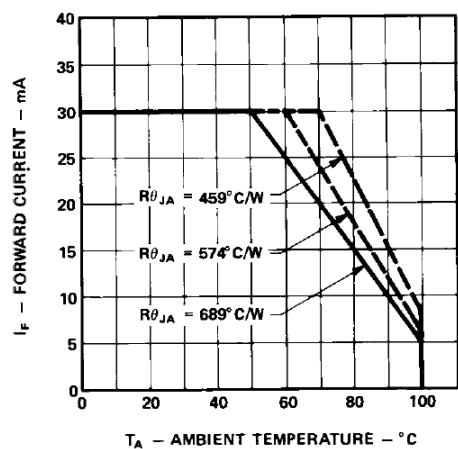

Figure 5. Maximum forward dc current vs. ambient temperature. Derating based on  $T_J \text{ MAX.} = 110^\circ\text{C}$ .
3. Derate linearly as shown in Figure 5.